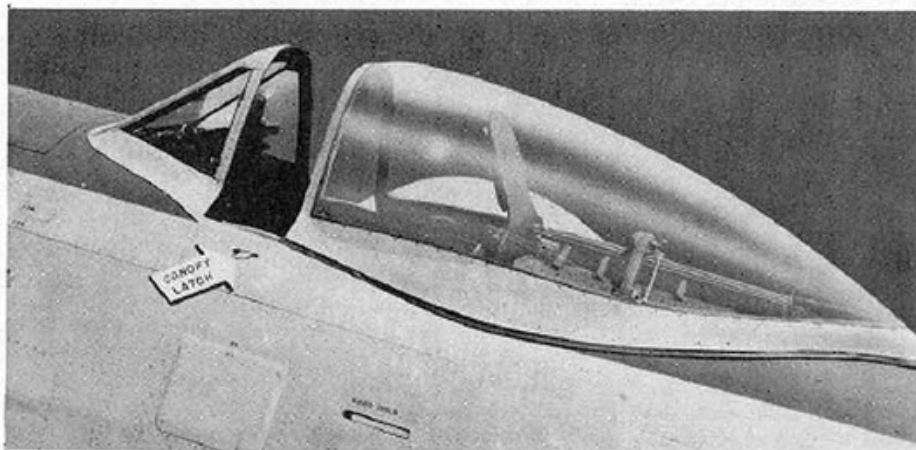

Figure 2—Bubble-Type Canopy
b. ACCESS TO AIRPLANE.—A step and handholds are provided in the fuselage on the left side of the airplane. The jettisonable, bubble-type canopy is unlocked by pulling on a small lever (figure 2) on the left side of the fuselage, allowing the canopy to slide back. The canopy is automatically locked in position when the lever is released.
(1) Fuel: Specification No. AN-F-28 (Grade 100/130).